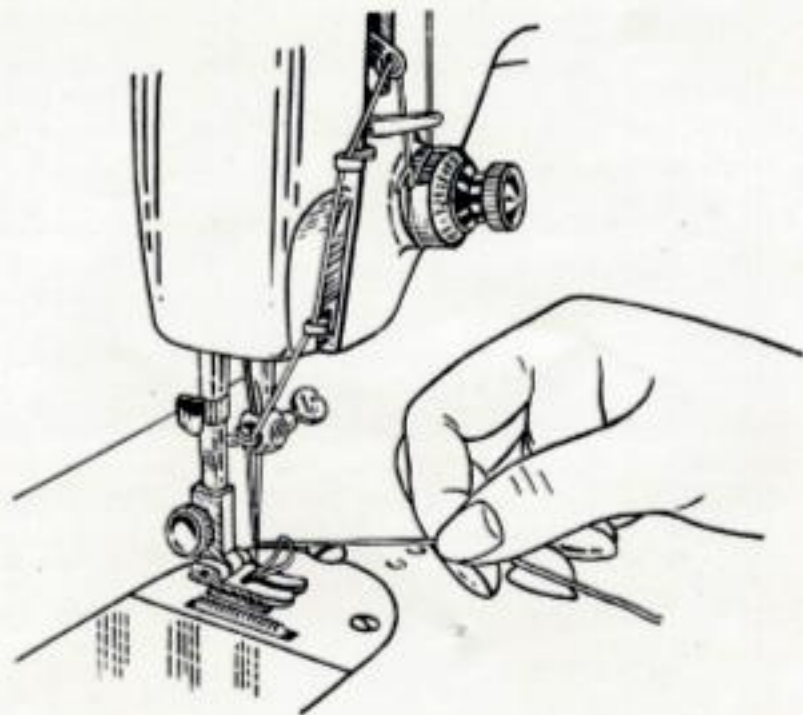

Fig. 12
3. Pull the thread you are holding, as the lower-thread will be brought up with it through the hole in the needle-plate, as shown (Fig. 12).